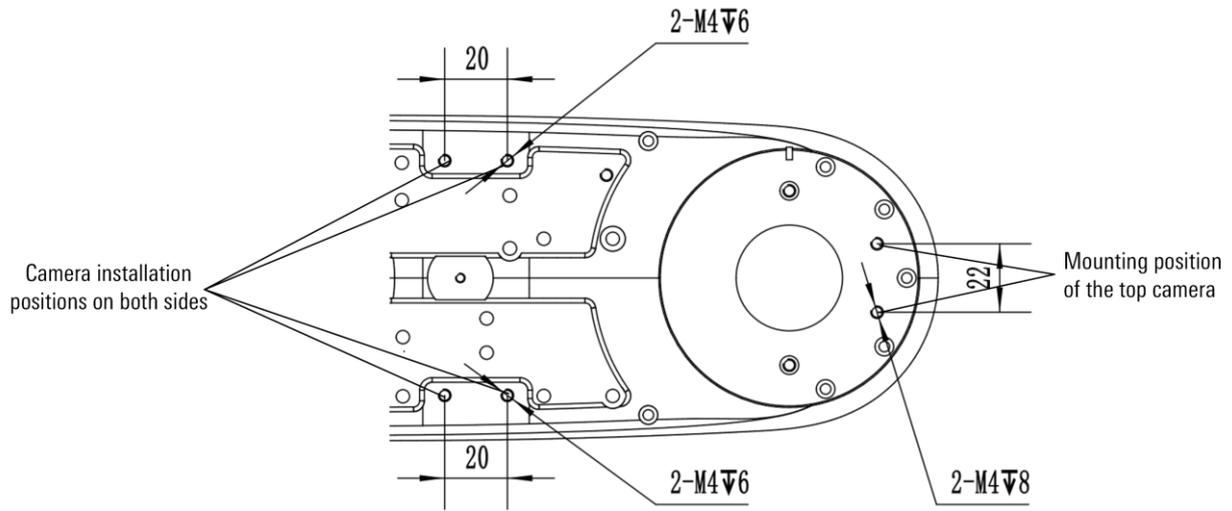

Figure 5-10 Schematic diagram of the camera installation position of the AIR3SC-400A arm
When installed on both sides of the forearm (shown in Figure 5-10) $WM = M (L1)^2 / (L1+L2)^2$
When installed at the top of the forearm (shown in Figure 5-10): $WM = M (LM)^2 / (L2)^2$
LM:The distance from the center of rotation of the J2 axis (shown in Figure 5-10) to the center of gravity of the camera, etc.
The manipulator has a camera mounting position on the forearm, and the mounting hole specifications and dimensions are shown in Figure 5-10.